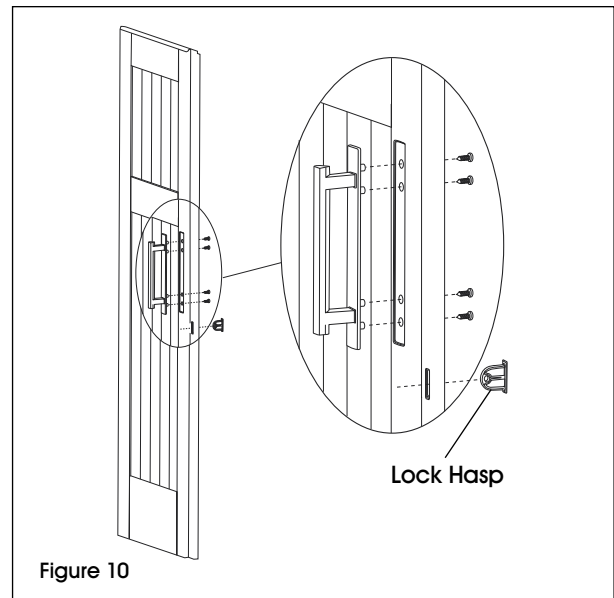

Figure 10
- Attach each door handle using 4 screws. (See Figure 10)
- Snap lock hasp through the back of the left door. (See Figure 10)